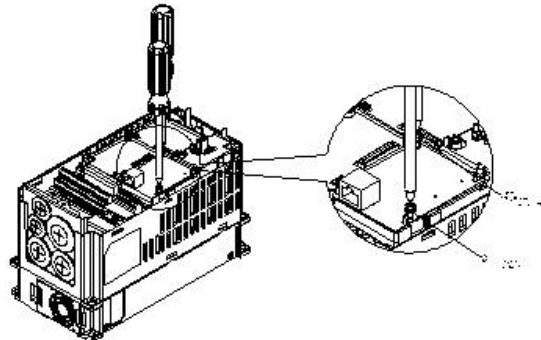

Figure 3.1-2
4. Screw up after the PCB is clipped with the holes (see Figure 3.1-2).